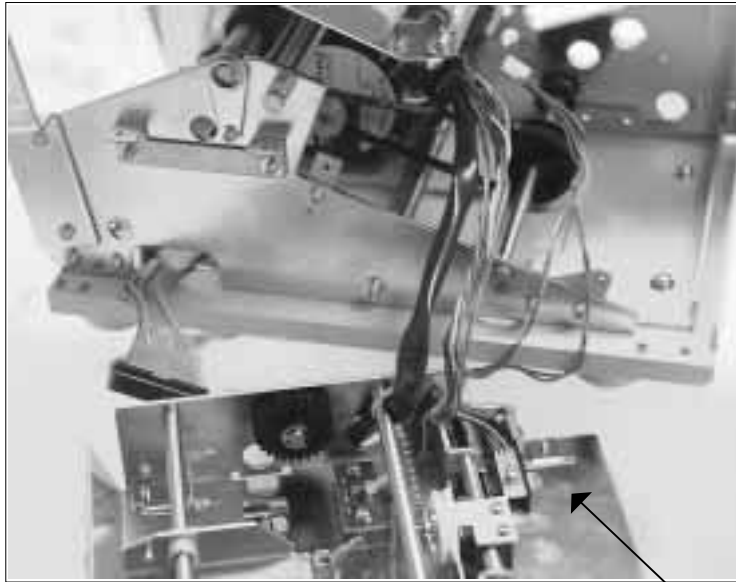

Fig. 6-61
6.	Lift up ramp for access to stepper motor, label feed roller, and sensors. Fig. 6-61